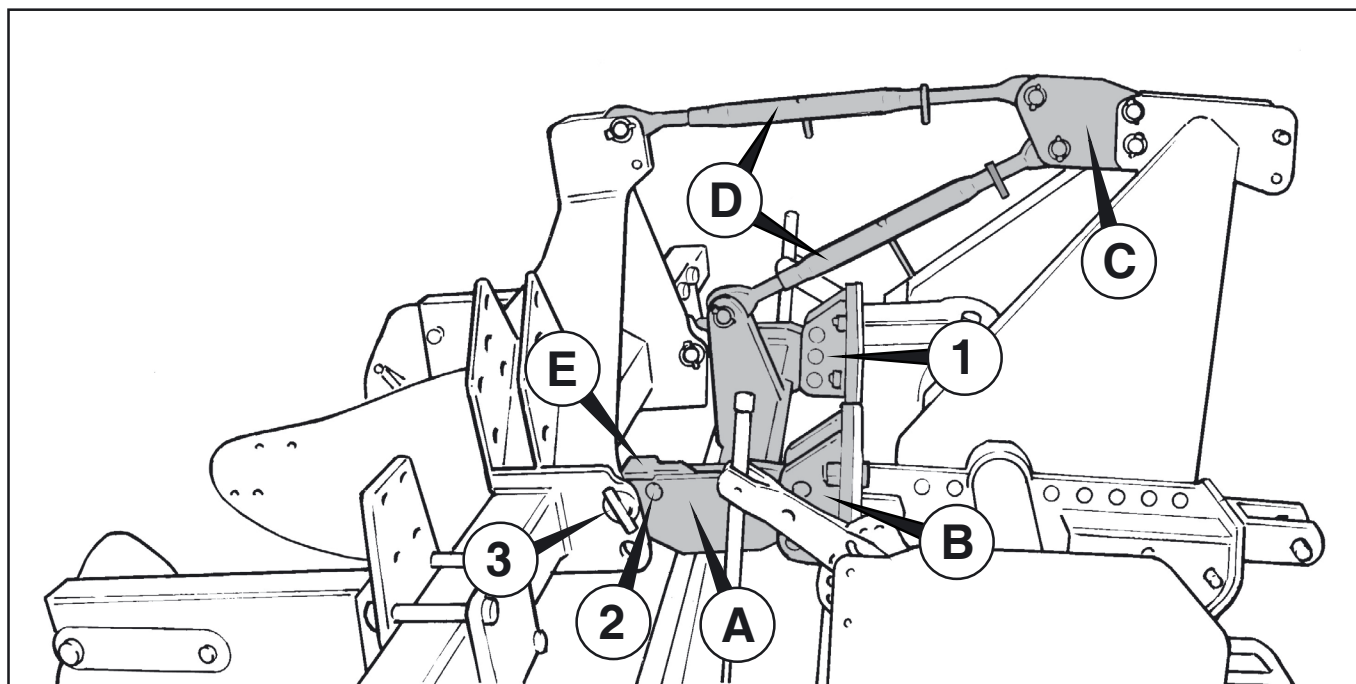

Fig 8
Before coupling to the Bed Tiller the linkage kit should be fitted to the Tiller as shown, Fig 8.
The kit consists of a linkage mount frame, Fig 8 (A), 2 mount brackets (B), a top link extension bracket (C), 2 top links (D), 2 latches (E), and all necessary pins and bolts.
Fit the pivot pins in either of the 3 height adjustment holes in the mount brackets, Fig 8:1.
Remove the latch retaining bolts, and raise latches ready to mount the Bedmaker, Fig 8:2.
Fit lower link pins to the Bedmaker, in either upper or lower holes, Fig 8:3.